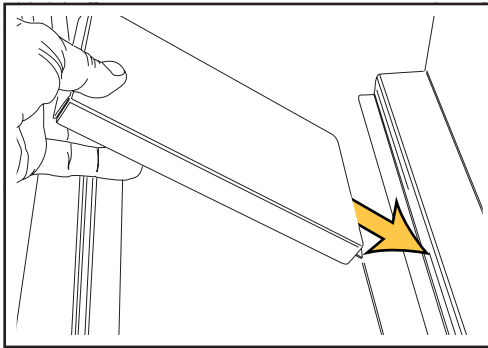
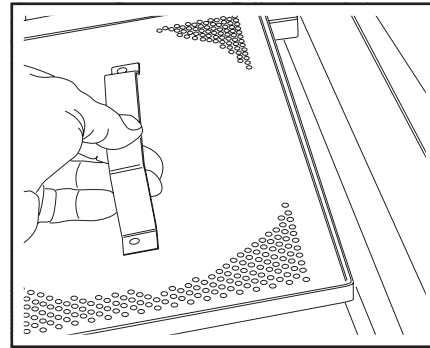

Fig. 34 - Center mounted scrap screen plate separating scrap screens.
Fig. 35 - Place scrap screens
7. Make sure the scrap screen plate and scrap screens are installed and firmly seated. The screen plate is mounted in the center of the wash tank and locks in a slot on the back screen support (see Fig. 34 and Fig. 35).